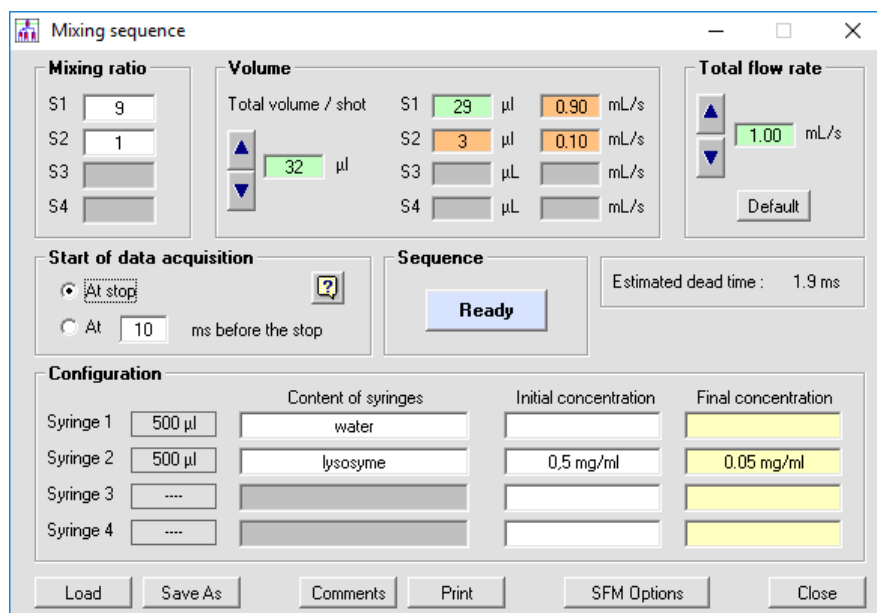

Figure 28: Example of sequence using 3 μl of protein
The sequence shown in Figure 28 will be used for the series of shots.
- Edit the stopped-flow sequence shown in **Figure 28**.